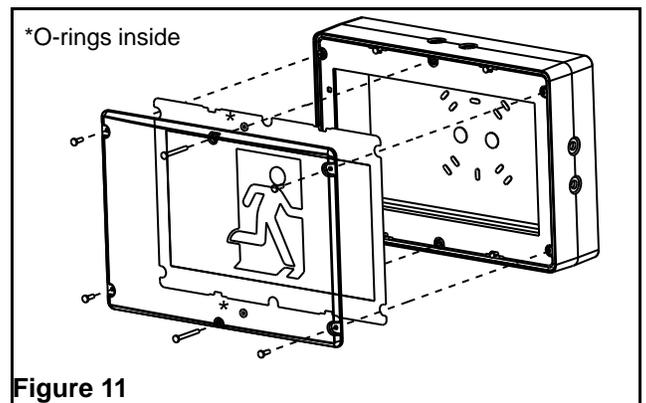

Figure 11
5. Install the lens by using the 6 tamper-proof screws. The o-rings must be installed on the screws between the lens and the frame as shown in figure 11.
5. Installer la lentille à l'aide de 4 longues et 2 courtes vis inviolables (voir Figure 11).